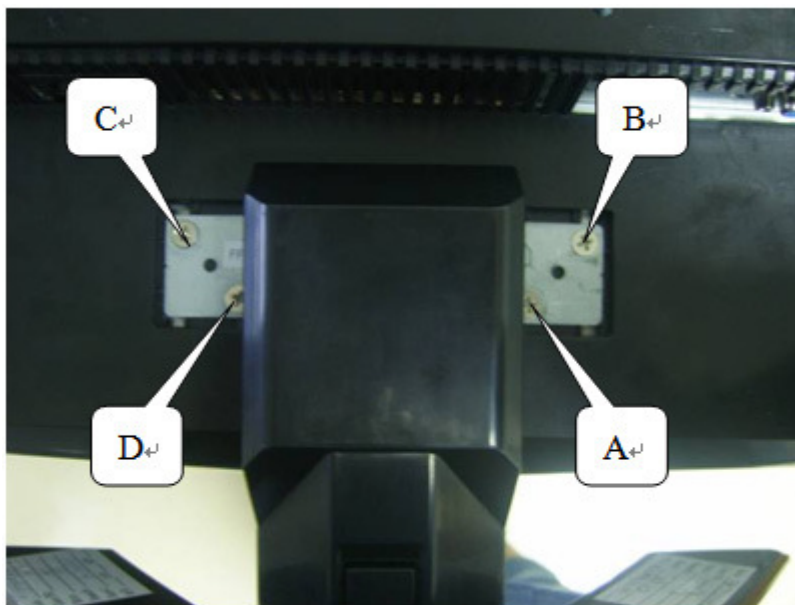

Fig 2
2. Remove the screws to release base stand . (Fig 2)